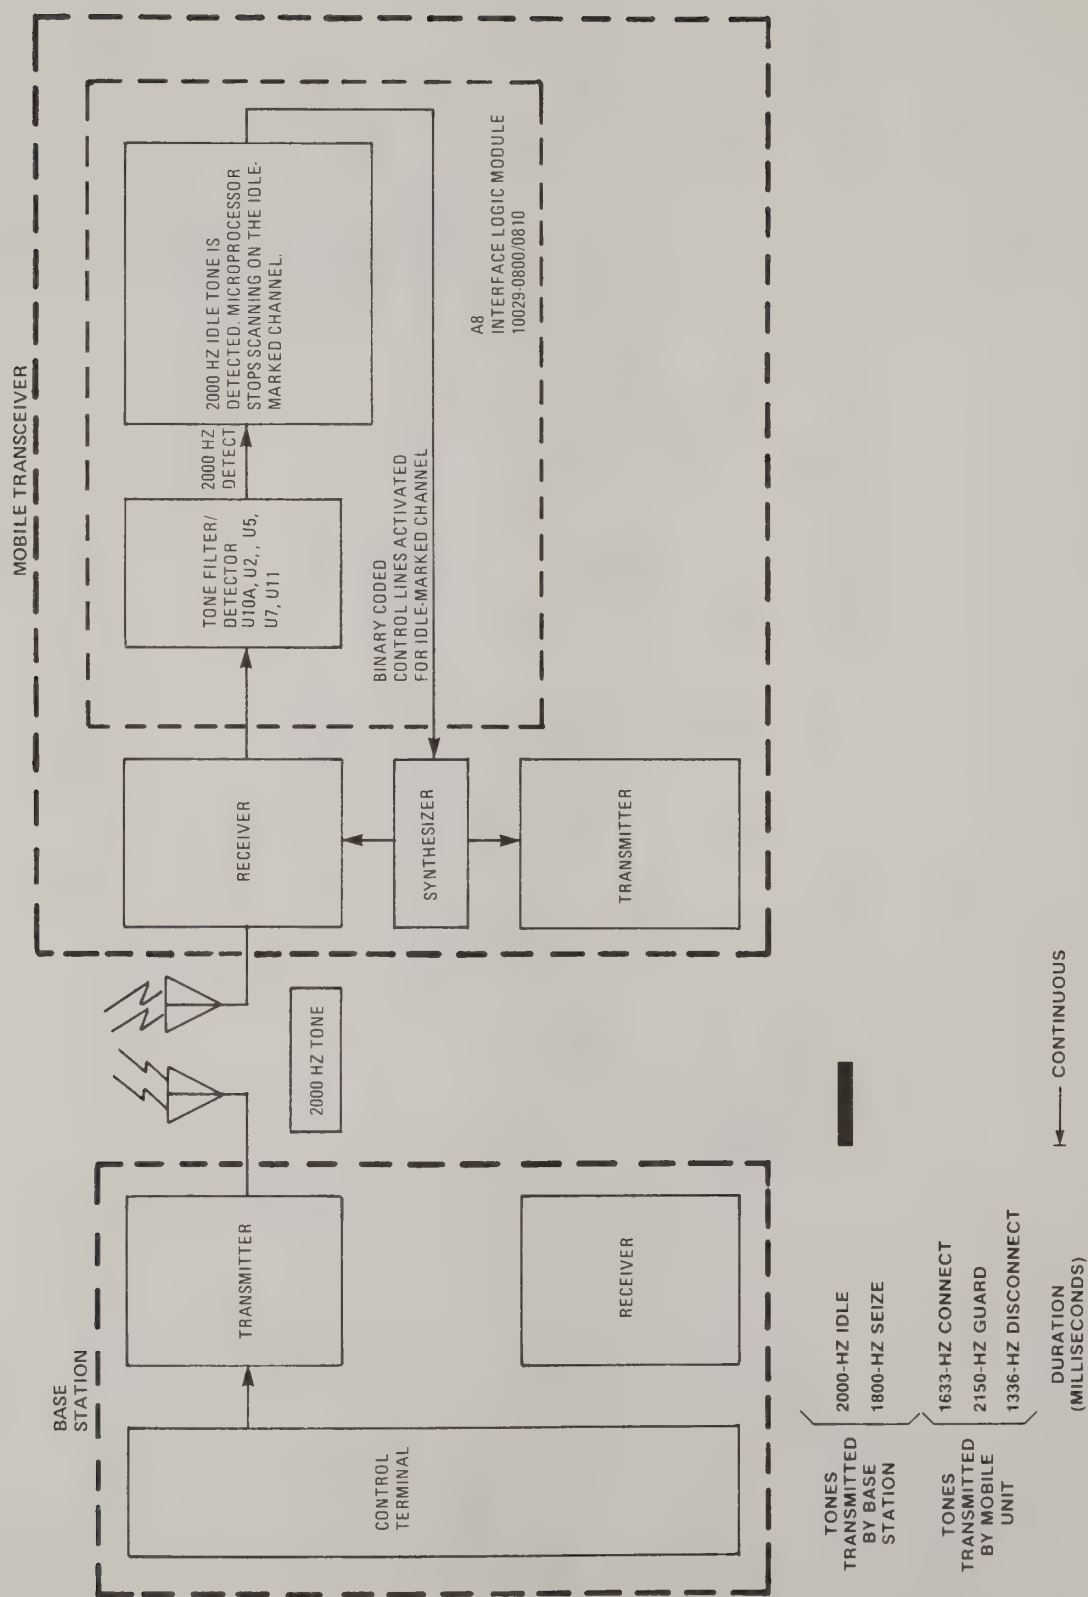

Figure 4. Functional Block Diagram, Detection of Idle-marked Channel
- (b) Detection of an Idle-marked channel (Figure 4)